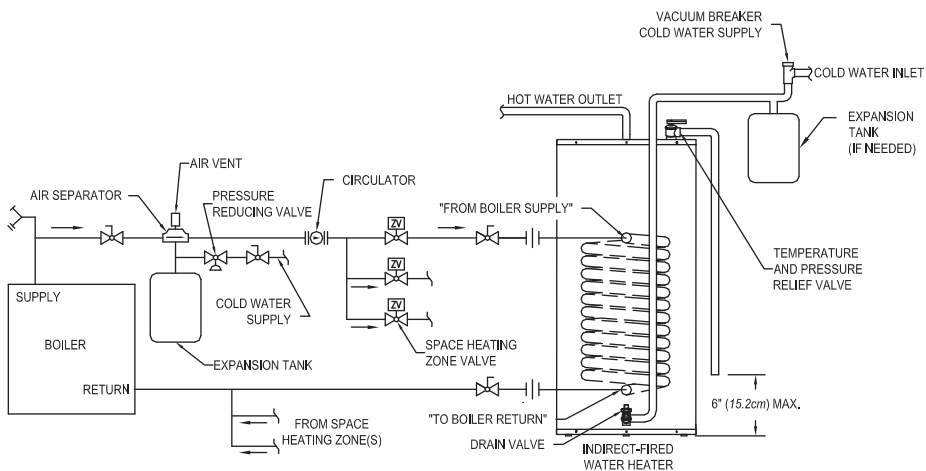

Figure 3 - Water Boiler Piping with Zone Valves
1. For a space heating system that utilizes **ZONE VALVES**, refer to Figure 3. The indirect-fired water heater connection labeled “FROM BOILER SUPPLY” should be piped to the boiler supply piping. Mount the circulator making sure the flow arrow points toward the water heater. The use of shut-off valves and unions are recommended for future service convenience. The use of an air separator and vent is recommended to eliminate air in the system. Pipe and fittings between the boiler and indirect-fired water heater must be $\frac{3}{4}$ ” diameter or larger.